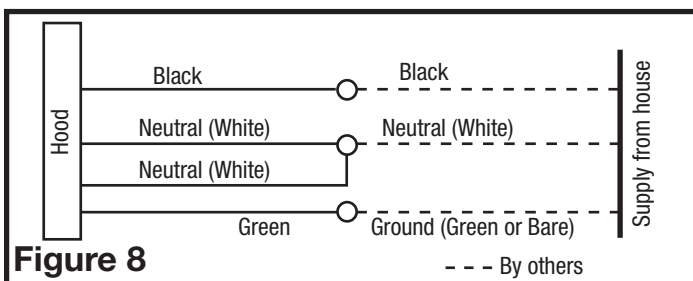

Figure 8
1. Connect the two loose White wires from the range hood to the White wire from the supply, and the loose Black wire from the range hood to the Black wire of the supply. Connect the ground wire (green or bare) from the supply to the green ground screw of the hood. Use approved methods for all connections (Figure 8).